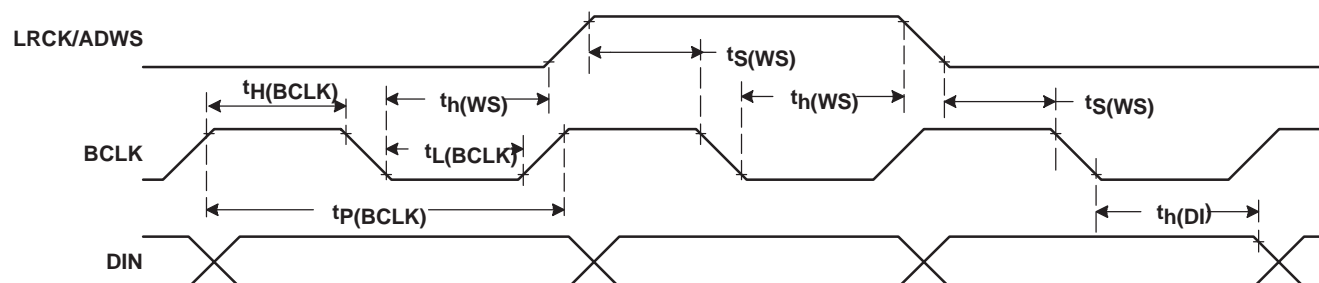

Figure 4. DSP Timing in Slave Mode
**TYPICAL TIMING REQUIREMENTS (FIGURE 4)**All specifications at 25°C, DVDD = 1.8 V (1)